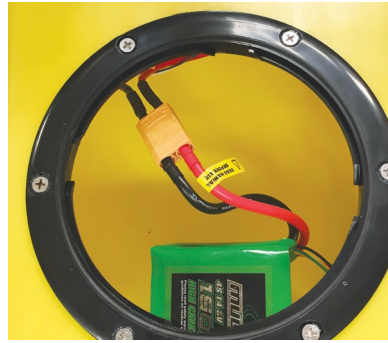

Figure 7—Front access hatch: the battery compartment includes keyed connectors
B. FRONT Access Hatch—Battery Compartment: (See Figure 7)